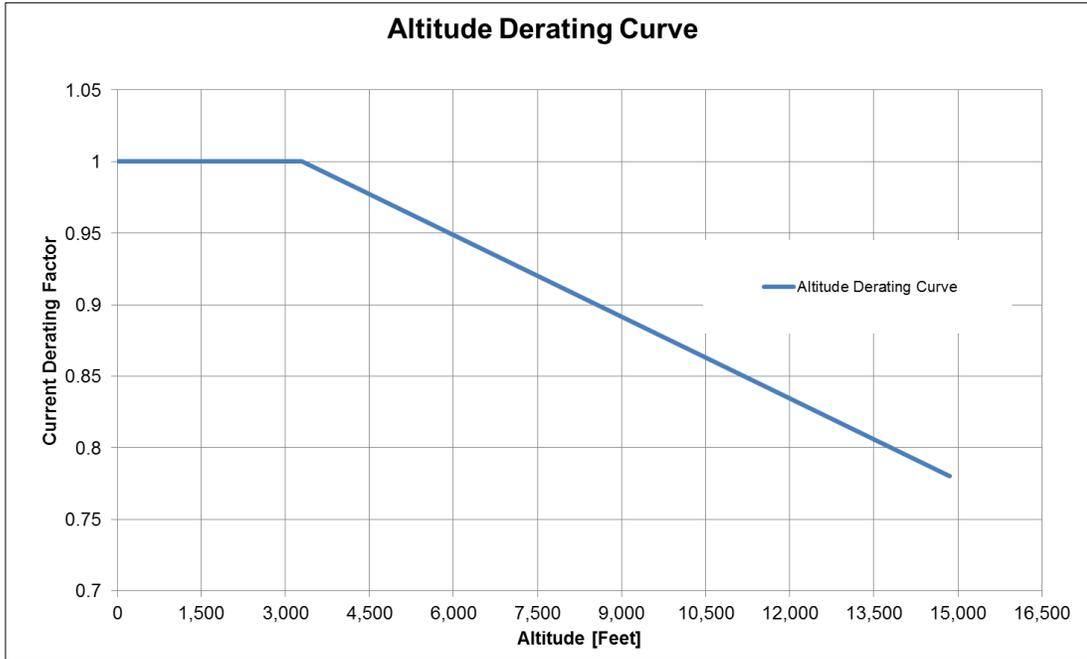

Figure 3-5: Altitude Derating Curve
*See Figure 3-5: Altitude Derating Curve (p9)
- Altitude:** 3,300 feet above sea level without derating, see Figure 3-5: Altitude Derating Curve (p9) for derating curve.